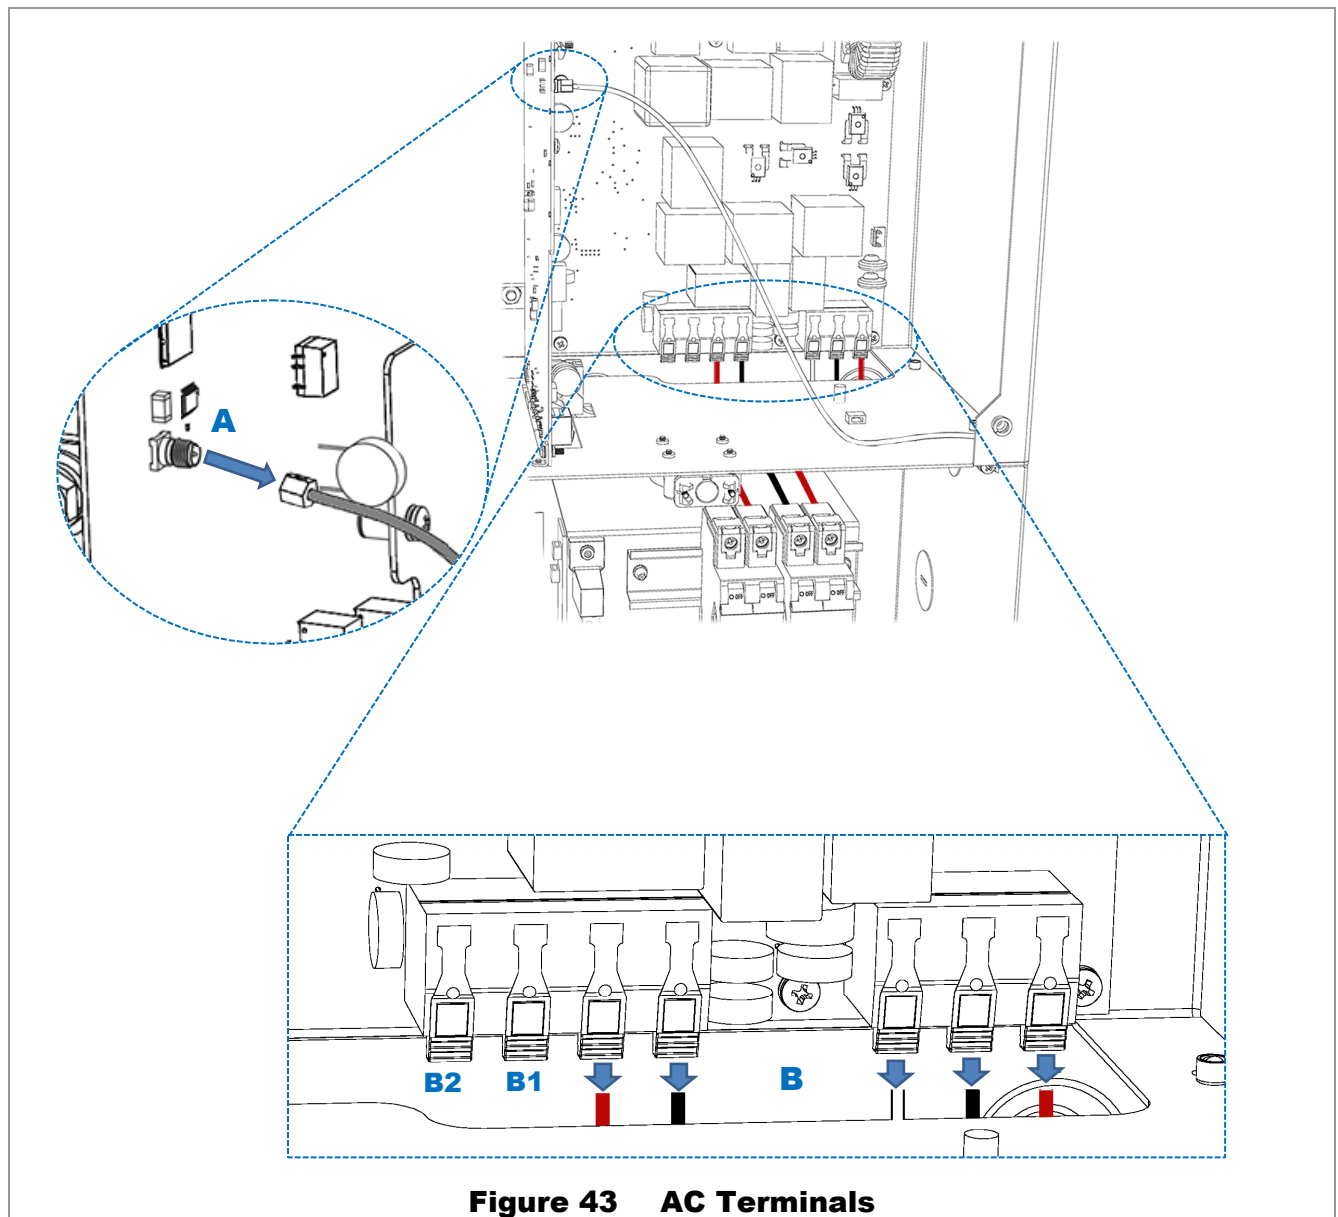

Figure 43 AC Terminals
1. Before beginning, remove the RP-SMA cable for the antenna wire. See **A** in Figure 43. Note that this is not a required step for board replacement, but will make access to the board easier.
- Replace the AC wires **B** and the RP-SMA cable **A**. See Figure 43 if necessary. After latching, tug on the wires to ensure that they are secure.